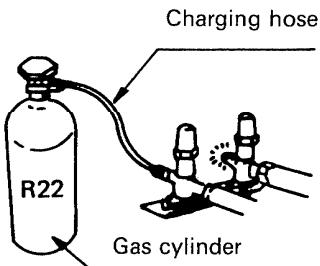

Fig. 10.
- a) Connect refrigerant charging cylinder to narrow tube service valve, and open the valve of the charging cylinder. Fig. 10